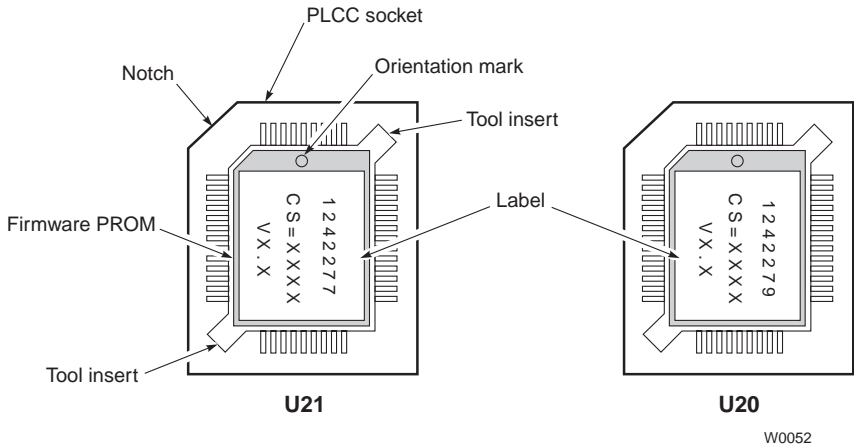

Figure 2. EMU-830 PROM Labeling
The labeling that identifies each PROM is shown in Figure 2.
- 3 Insert a PROM extraction tool into the Tool insert slots on the U21 socket (see Figure 2 on page 3).
- 5 Locate the U21 replacement PROM shipped with your kit. It is labeled as shown in Figure 2.